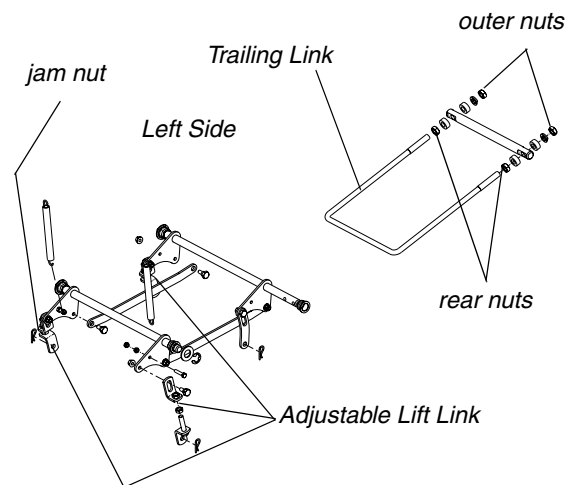

Figure. 5
- If the dimension at the front of the mowing deck is 1/8"-1/4" (1/8" for 1-1/2" and 1/16" for 1") lower than the dimension at the rear of the deck (pitch) on each side of the mower, do not adjust. If not, you will need to adjust the Lift Links (See Figure 5).